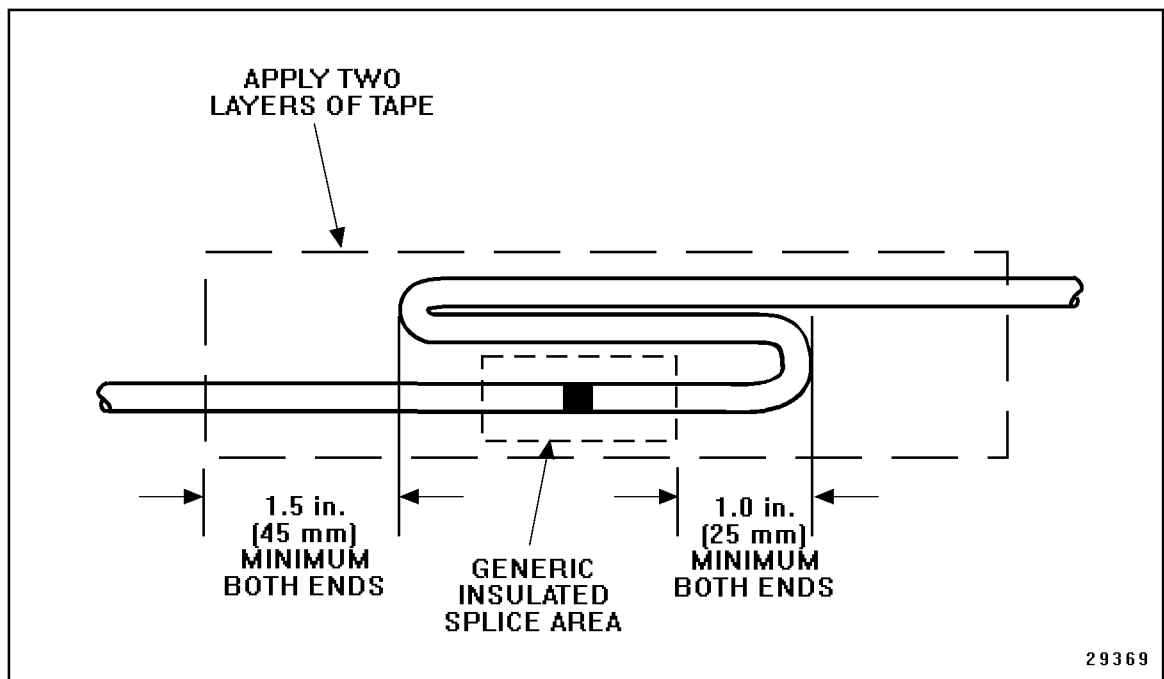

Figure 8-36 Recommended Strain Relief of Spliced Joint
9. Loop the lead back over the spliced joint and tape. See Figure 8-36.